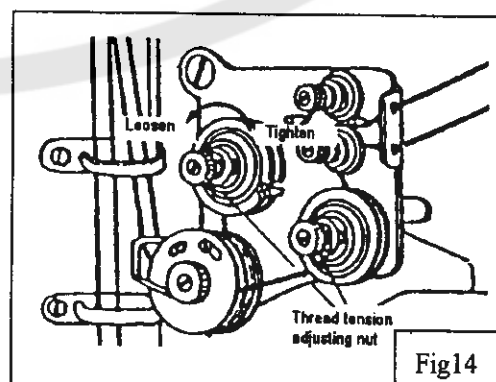

Fig.14
10. Upper thread tension (Fig.14):